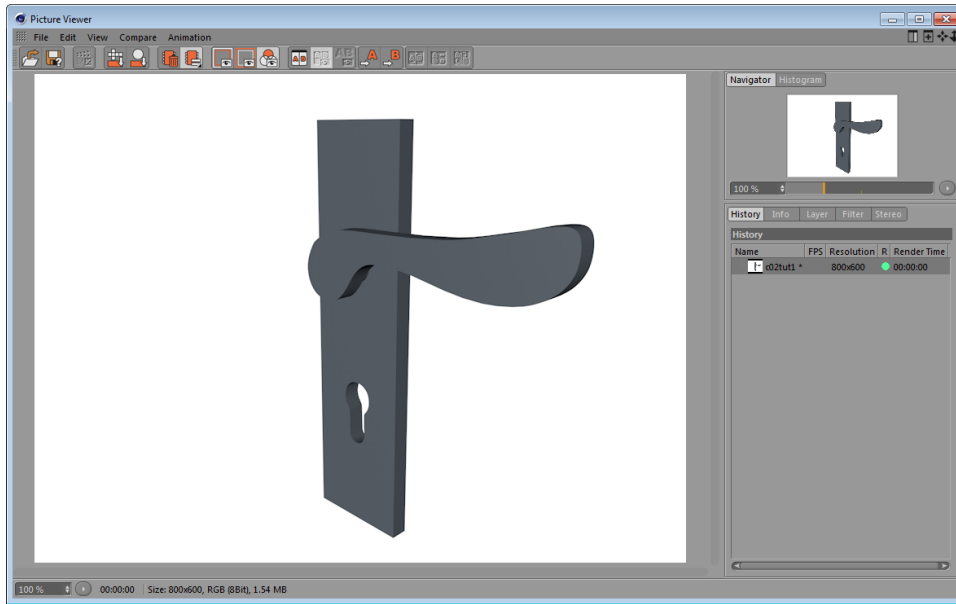

Figure 2-28 The Picture Viewer window
3. In the Perspective viewport, set the camera angle using the Viewport Navigation Tools located at the top right of the Perspective viewport. Next, choose the **Render to Picture Viewer** tool from the Command Palette. Alternatively, press **SHIFT+R**; the **Picture Viewer** window is displayed, as shown in Figure 2-28.